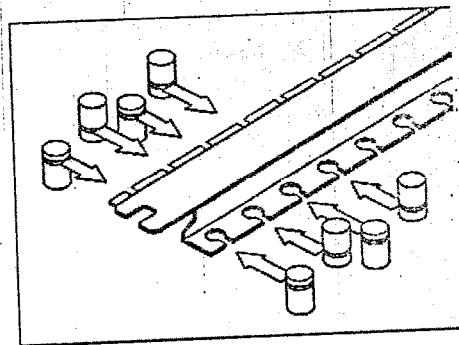

Figure 2.3-5: Inserting the rubber buffers
2. Insert the rubber buffers (provided) into the hold-down clamp. These buffers offer the plug-in cards two levels of protection against vibration. (See Figure 2.3-5)